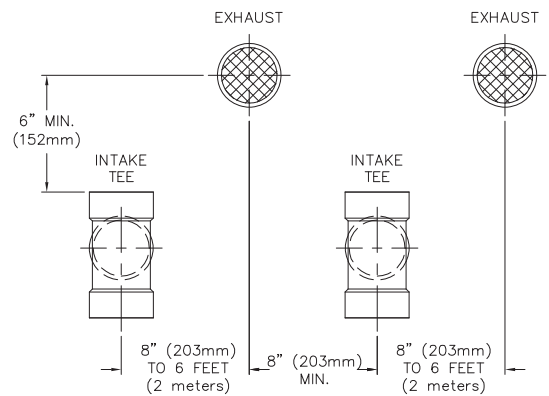

Figure 3.1: Vent Pipe Spacing for Multiple PUREFIRE® Boilers
- d. For multiple boiler installations, the minimum horizontal distance between the inlet of one boiler to the exhaust of an adjacent boiler is 8" center-to-center. In addition, the minimum vertical distance between the exhaust and air inlet is 6". See Figure 3.1 for an illustration.